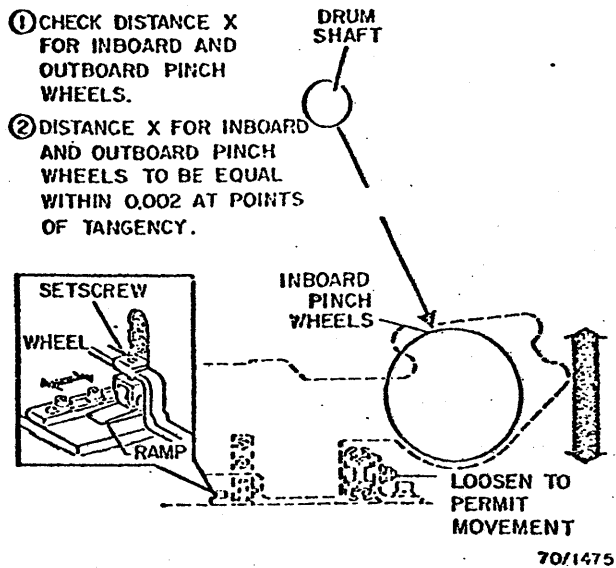

Fig. 3-119. Lower Pinch Wheel
3. Adjust the wheel on the leveling bracket assembly to just touch the ramp. Adjust the setscrew to just touch the wheel bracket (Fig. 3-119).
5. Check the distance to the outboard pinch wheel (Fig. 3-119). Adjust the ramp to obtain the same distance as in step 4 within 0.002 at the points of tangency.
① CHECK DISTANCE X FOR INBOARD AND OUTBOARD PINCH WHEELS.
② DISTANCE X FOR INBOARD AND OUTBOARD PINCH WHEELS TO BE EQUAL WITHIN 0.002 AT POINTS OF TANGENCY.